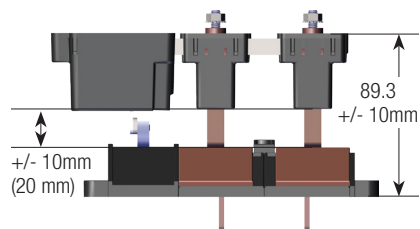

Figure: 4-2
- Mount the collector assembly to allow for overall mounting height as well as maximum collector movement to ensure consistent contact when in use. See **Figure: 4-2**.